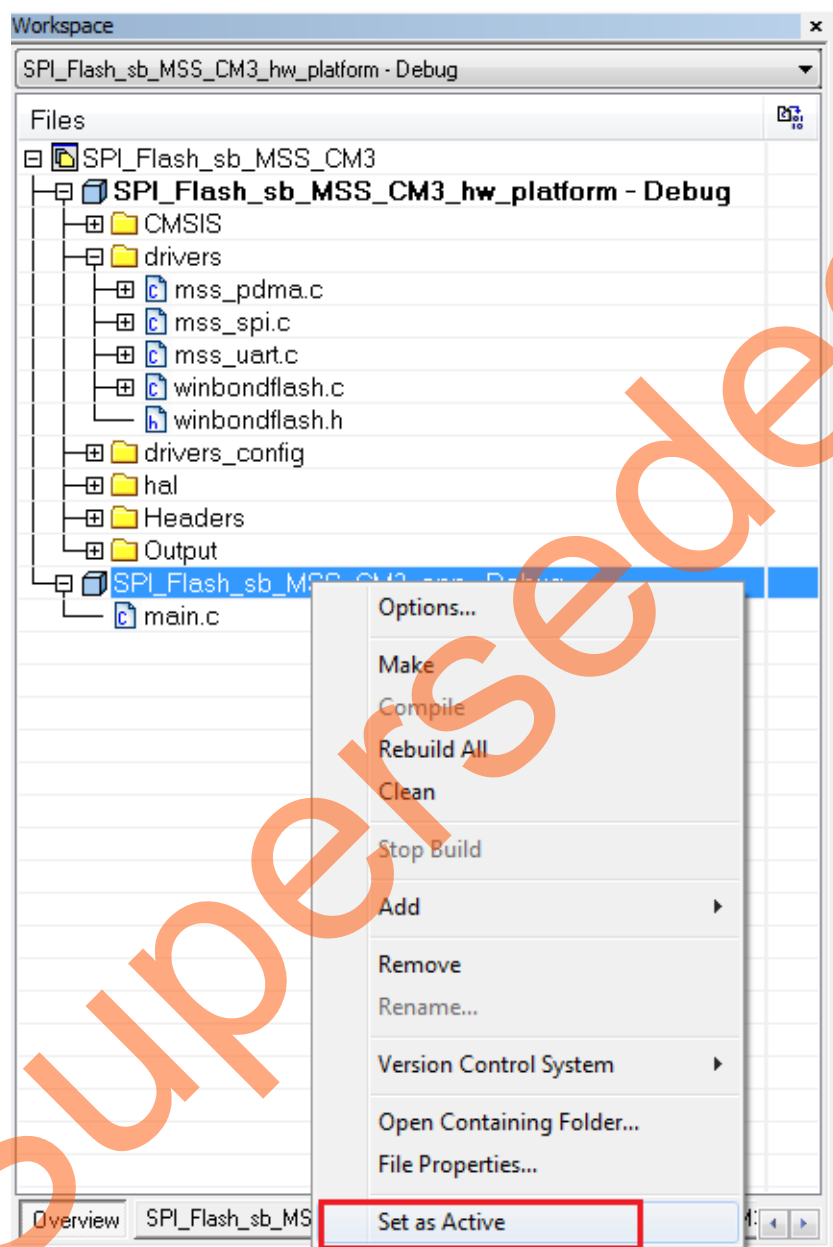

Figure 32 • IAR Workspace - SPI\_Flash\_sb\_MSS\_CM3\_app Set as Active
17. Right-click **SPI\_Flash\_sb\_MSS\_CM3\_app - Debug** project name and select **Set as Active** as shown in Figure 32.